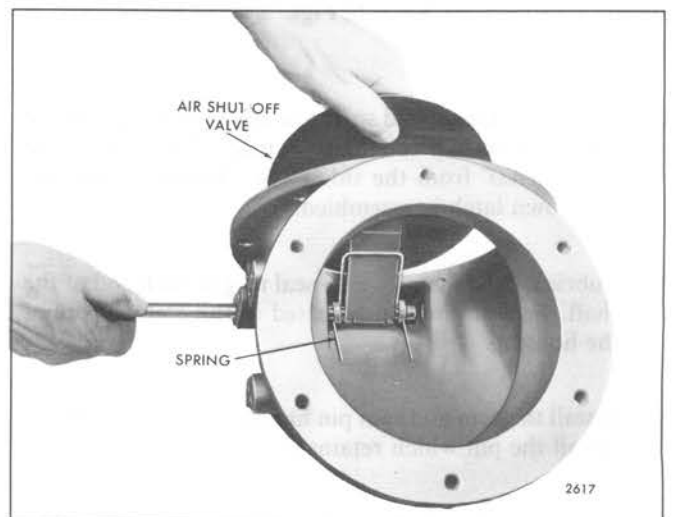

Fig. 3 - Installing Air Shutdown Valve Spring and Valve
4. Note the position of the air shutdown valve spring and valve (Fig. 3), then withdraw the shaft from the housing to release the valve and spring. Remove the valve and spring and the seal ring from the housing.
1. Place the valve(s) and spring in position in the housing (Fig. 3) and slip the shaft in place. The shaft must extend .700" from the side of the housing where the shutdown latch is assembled.